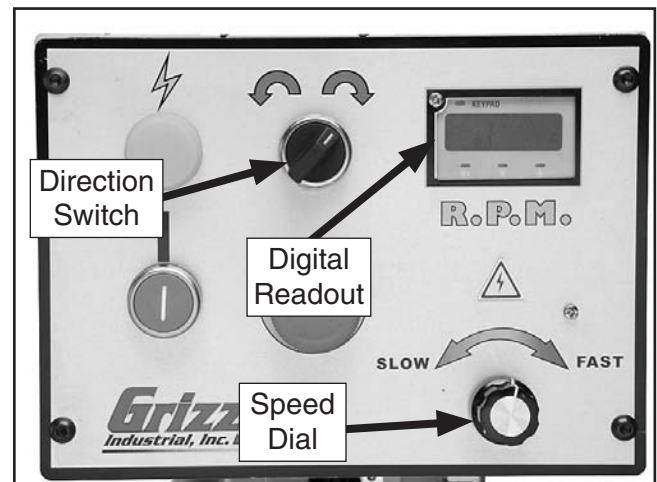

Figure 30. Spindle direction switch, speed dial, and digital readout.
2. Use the direction switch to select the direction of spindle rotation, turn the spindle **ON**, then rotate the speed dial until the calculated spindle speed is displayed at the digital readout on the control panel (see **Figure 30**).